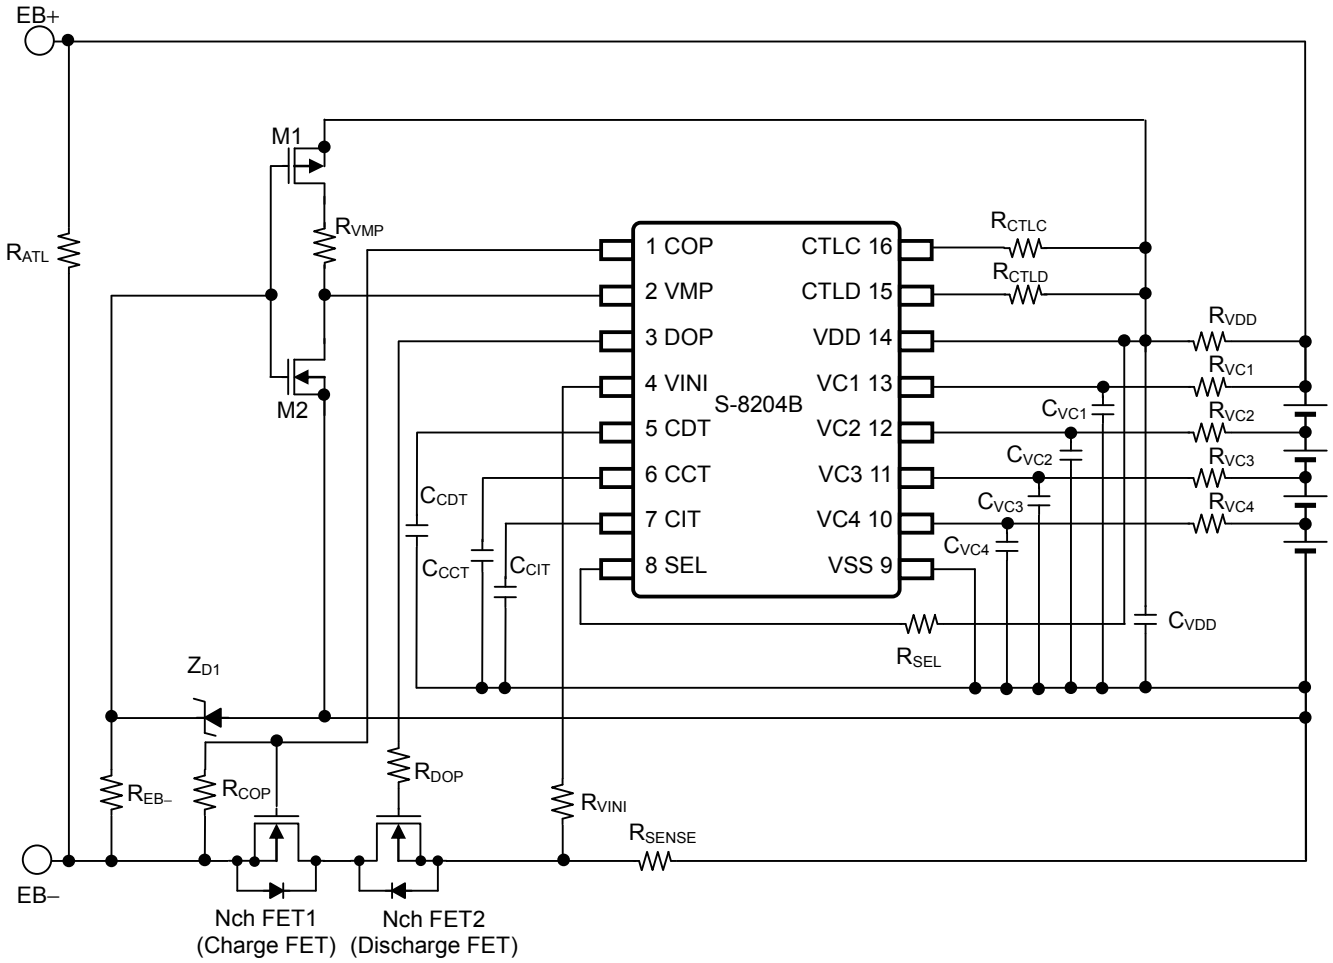

Figure 11
■ **Timing Chart (Circuit in Figure 11)**
Table 10 Constants for External Components (Circuit in Figure 11)